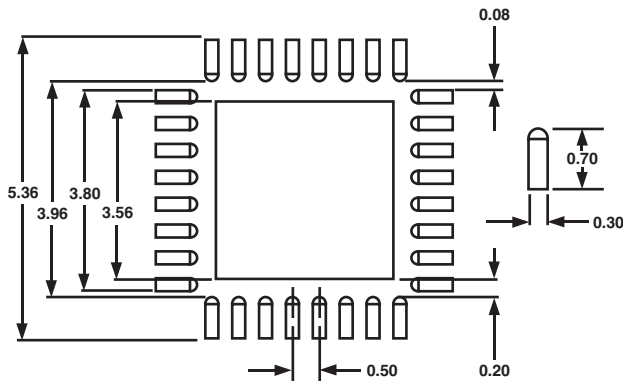

Figure 7. LFCSP Pad Pattern (Dimensions Shown in Millimeters)
1. The pad pattern is given in Figure 7. The pad dimension should be followed closely for reliable solder joints while maintaining reasonable clearances to prevent solder bridging.
| New Figure 7 | 18 |